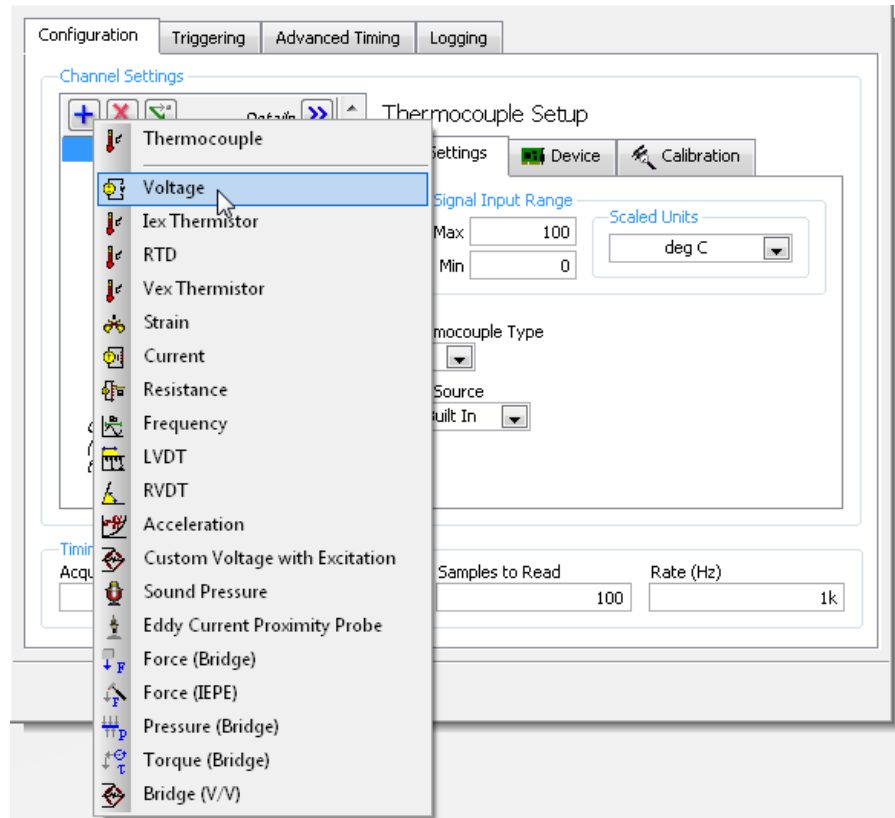

Figure 9. Both acquisition channels can be a part of the same NI-DAQmx Task since they both share the same timing and triggering settings.
- a. Within the Channel Settings section, use the **Add Channel** button () to select **Voltage** as shown in Figure 9.